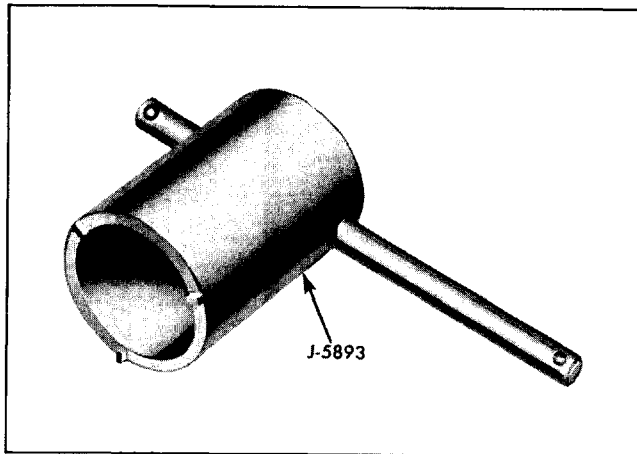

Fig. 12-46 Ignition Switch Ferrule Spanner
2. Remove ignition switch ferrule by unscrewing with special spanner J-5893 (Fig. 12-46).